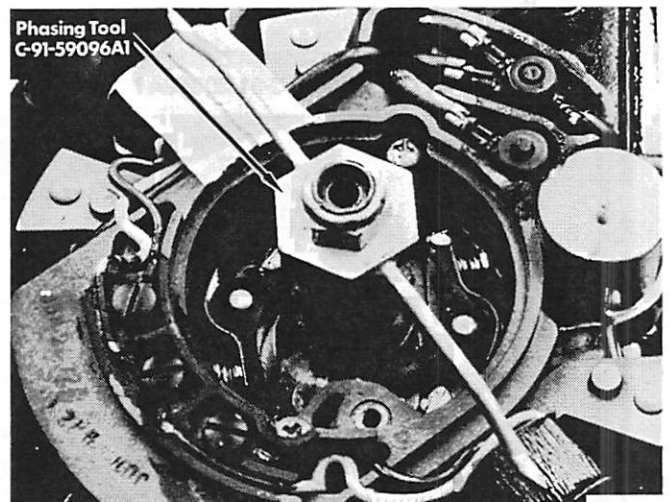

Figure 6. Marking Pointer Location
7. Place masking tape under pointer of phasing tool and mark pointer location on tape. (Figure 6)